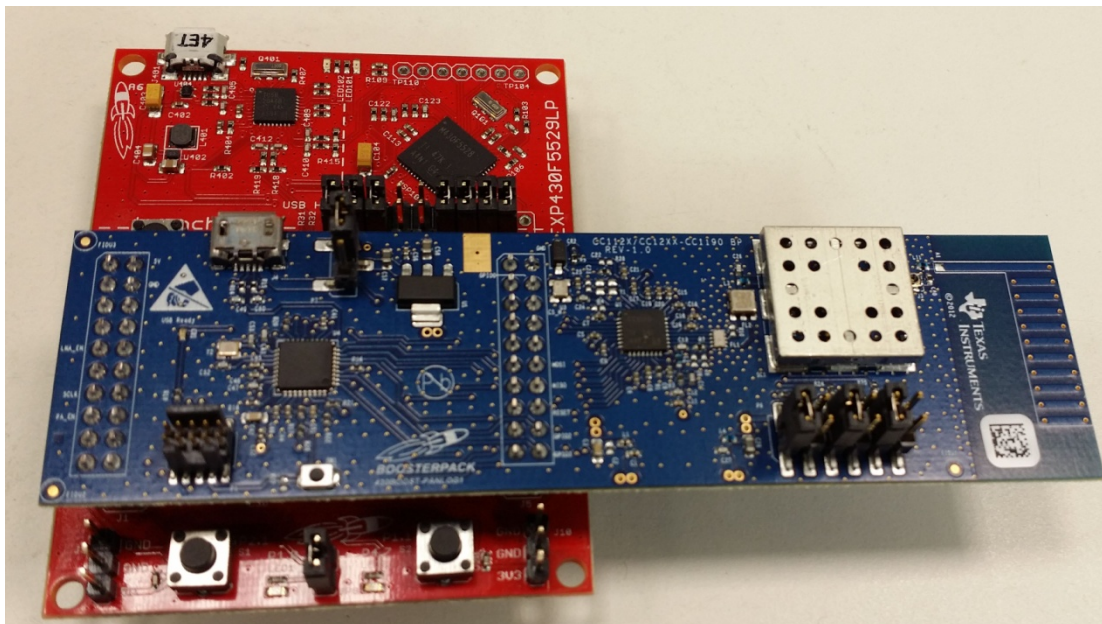

Figure 4. CC112x-CC1190 BoosterPack With LaunchPad
1. Install the CC112x-CC1190 BoosterPack on to the LaunchPad as shown in Figure 4.